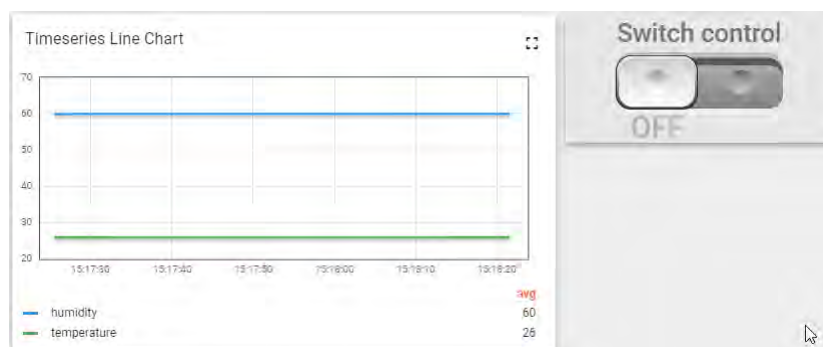

Figure 4.6: Dashboard
- If you have done everything correct, your dashboard should look like as in Figure 4.6.